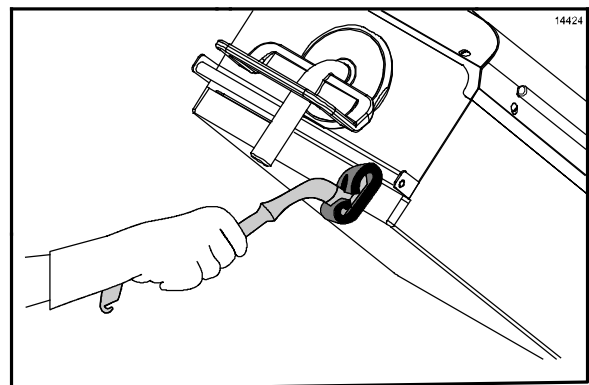

Figure 47
- Apply **McD Hi-Temp Grill Cleaner (HTGC)** to the front side of the platens, starting from the right platen to the left platen. (See Figure 47.)